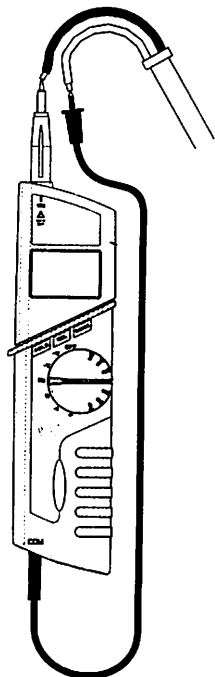

Fig. 5: Frequency measurement
2. Insert the black test lead in the COM jack and the red probe in the V+/ $\Omega$  jack (Fig. 5).